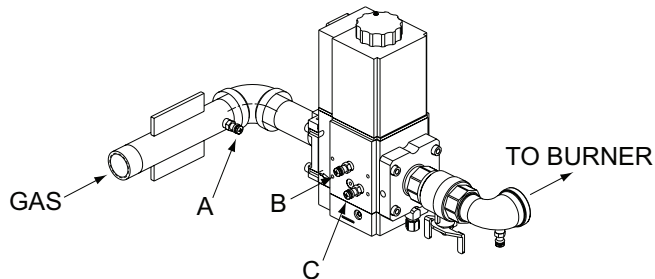

Figure 55. Gas Pressure Measurement Locations
2. Attach (1) 12" scale manometer to an upstream bleedle valve on the gas supply pipe to the heater (Measure point "A" in **Figure 55**).
- Attach (1) 24" scale manometer to the manifold pressure tap located near the shutoff valve downstream of the firing valve (Measure point "C" in **Figure 55**).
- Attach (1) 12" scale manometer on the fan suction pressure hose. Pull black cap from the air pressure tee as shown in **Figure 55** and connect the manometer.